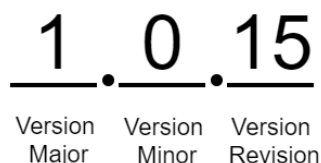

Figure 4-1: Example FW Version Format
- Bits 32 to 55 of the value contain the application revision numbers which define the FW version. The FW version is reported in the format as shown in Figure 4-1, which is shown using the example FW v1.0.15 (value 0x 01 00 0F).
- Bits 8 to 31 of the value contain the LoRa Basics modem version numbers. The format is the same as shown in Figure 4-1. This number is not to be confused with the LoRaWAN specification version according to the LoRa Alliance standards. The LoRaMAC version number is the version of the FW used by the LR1110.
- Bits 0 to 23 of the value contain the BLE stack version numbers. The BLE stack is the SW published by Bluetooth and not developed by TEKTELIC. The version is reported in the format as shown in Figure 4-1.